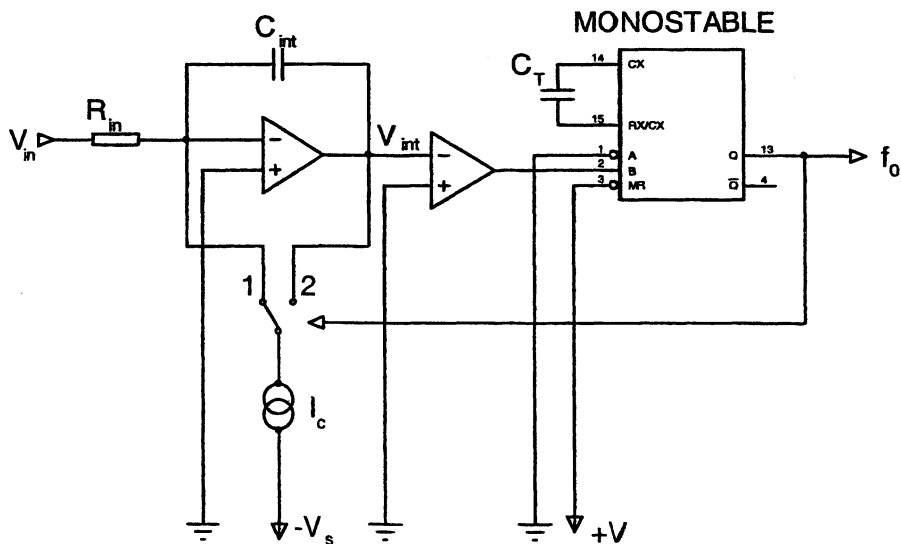

Fig 1.
1. Figure 1 shows the block diagram of a charge-balance type voltage to frequency converter. The monostable is positive edge triggered, and its output pulse is positive-going. When the pulse is high, the switch that it controls is switched to position 1, i.e. connection is made to the op amp input.